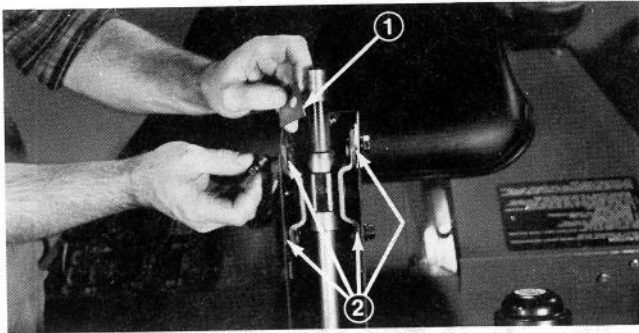

Figure 5
3. Move shaft forward to allow clearance, install bearing supports and align support mounting holes with mounting holes in steering column housing (Fig. 7). Insure grease fitting is aligned with large hole in right side of column (Fig. 5).